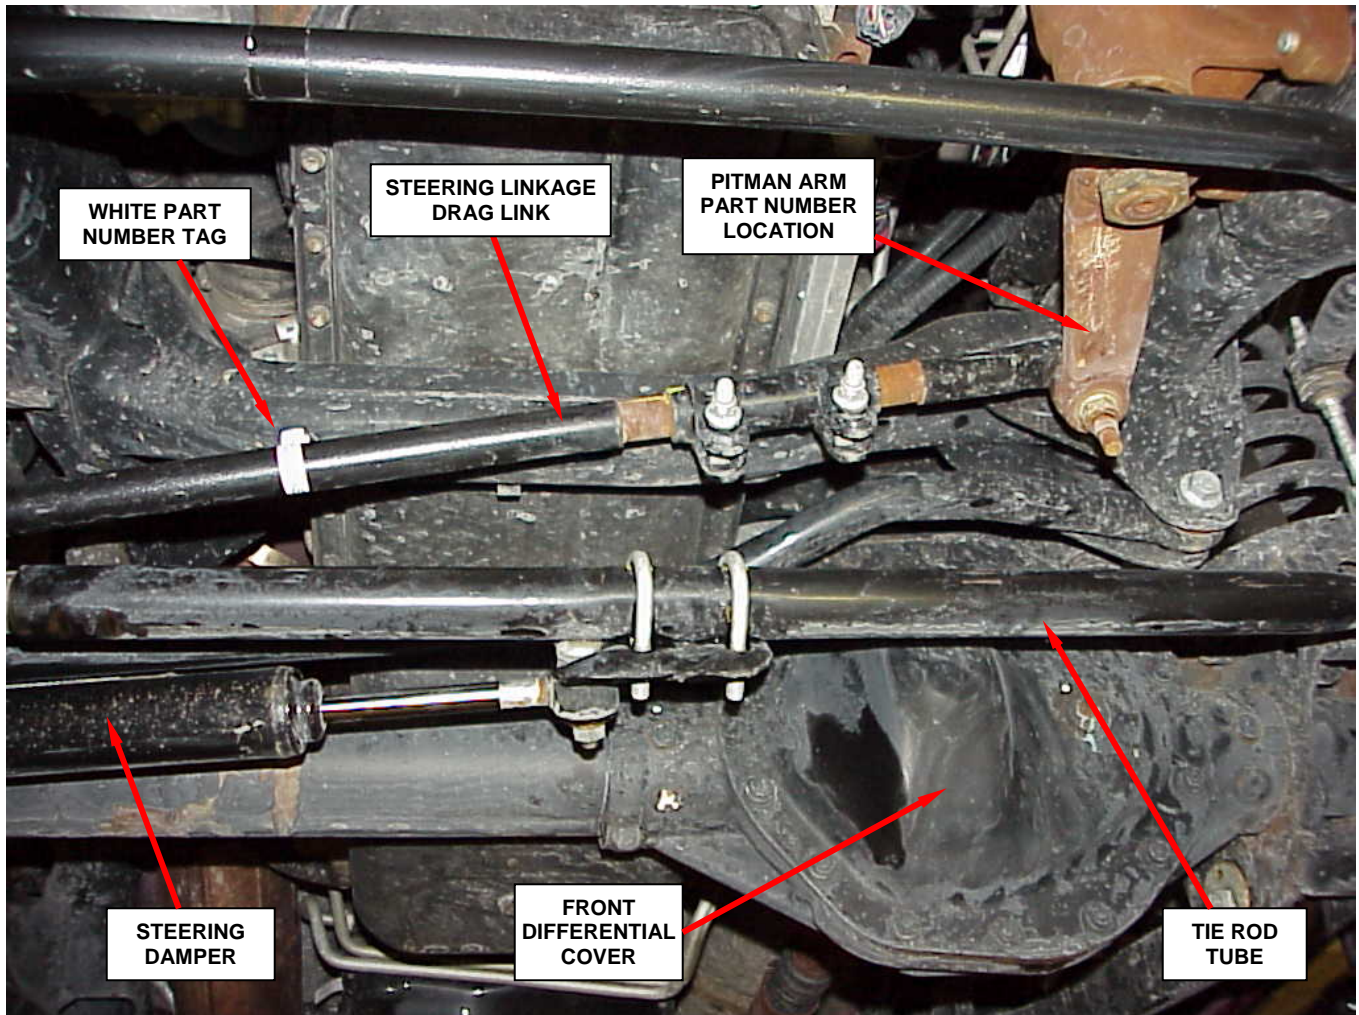

Figure 3 – Inspect for White Part Number Tag
2. Lift the vehicle on a hoist and inspect the steering linkage drag link for a white part number tag (Figure 3):